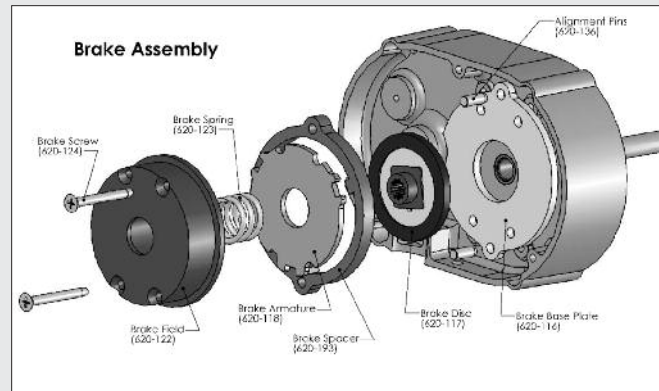

Figure 8B
1. Refer to Figure 8B and disassemble the brake. Depress and hold the field assembly (620-122) while removing the four brake screws (620-124). The field assembly is under spring pressure and will spring-out if not held. Examine the base plate (620-116), brake disc (620-117) and armature (620-118) for excessive wear, scoring or warpage. Make sure the brake disc is not glazed, the coil firmly fixed in the field (620-122) and the brake spring (620-123) is not damaged. Worn, scored, warped, glazed or damaged parts should be replaced before proceeding.
2. Refer to Figure 8B and assemble the brake. Depress and hold the field assembly (620-122) while installing the four brake screws through the brake parts and mount the brake on the gear housing (620-113). Tighten the four brake screws (620-124) to 25 in.lb. (2.8 NM).